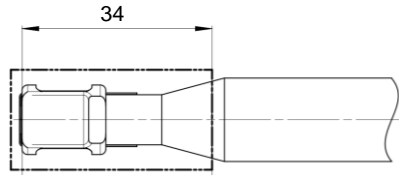

Figure 2-1
- Only the sensor head is coated with Parylene (see Figure 2-1).